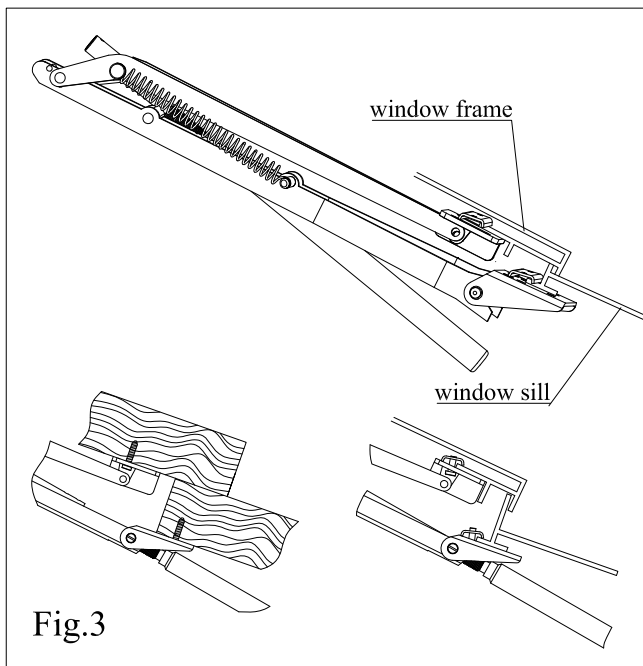
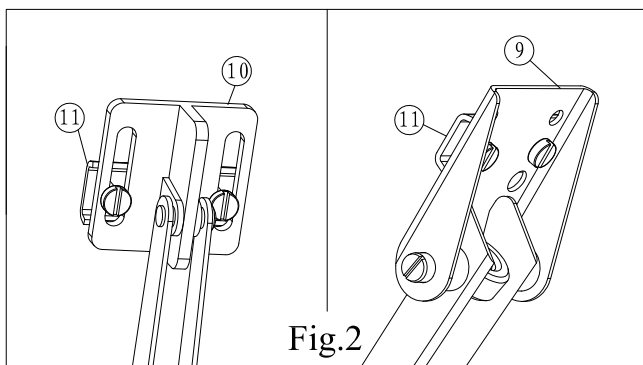

Fig.3
Fig.2
2. Loosely fit a clamp (11) to the window bracket (10) using two of the screws supplied. See fig.2. On wooden greenhouses the brackets can be screwed directly on to the woodwork. See fig.3.
3. Choose the most suitable pair of holes and loosely fit the other clamp to the frame bracket (9). Ensure that the upper edge of the frame bracket is as close to the edge of the window frame as possible. See examples in fig.3.